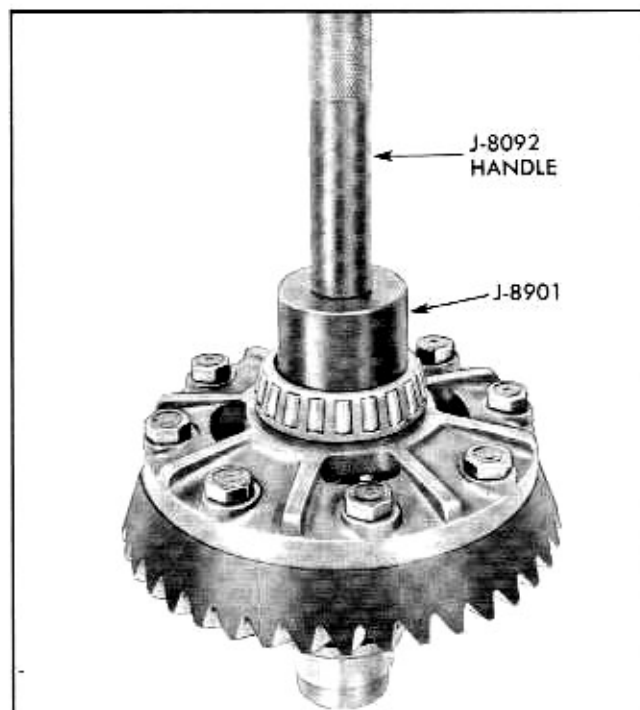

Fig. 4-30 Installing Differential Side Bearing
8. Press on side bearings using J-8901 and J-8092 handle (Fig. 4-30).